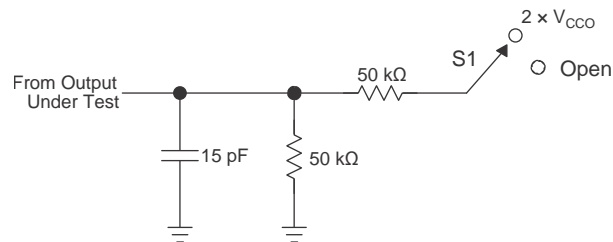

Figure 6. Load Circuit for Enable-Time and Disable-Time Measurement
- Waveform 1 in Figure 9 is for an output with internal such that the output is high, except when OE is high (see Figure 6). Waveform 2 in Figure 9 is for an output with conditions such that the output is low, except when OE is high.